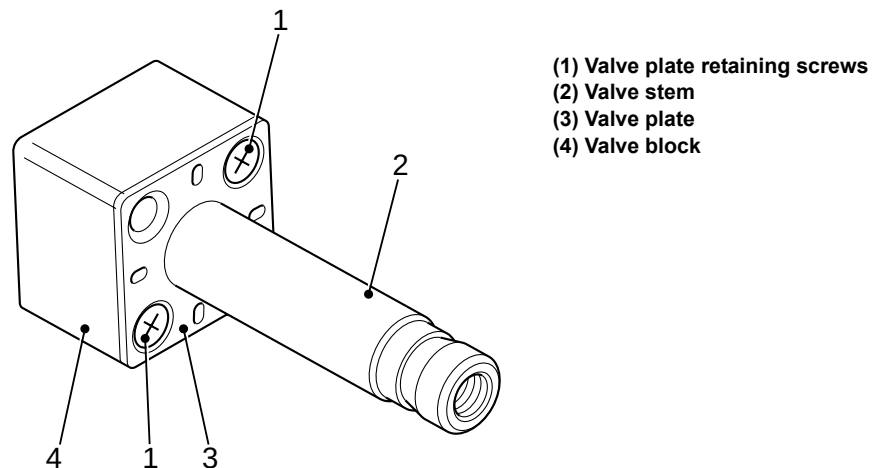

Figure 11-1. Valve Components
- 2 Remove the valve plate retaining screws (Item 1 in Figure 11-1). Retain the screws and note the orientation of the plate.
- 3 Pull the valve stem (2) and the valve plate (3) away from the valve block (4).